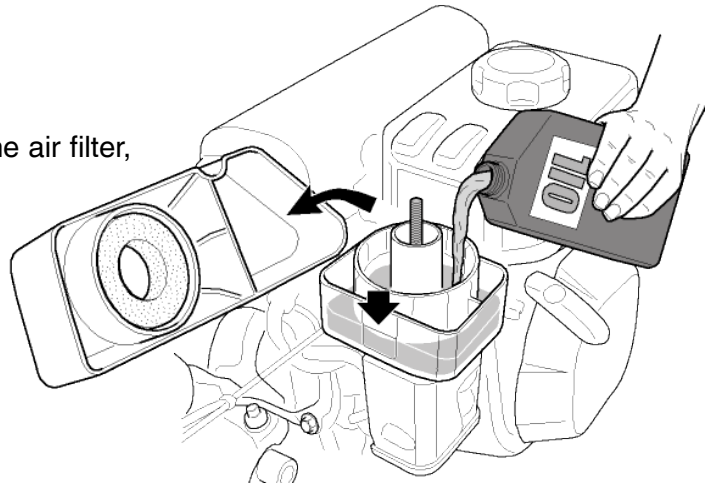

Figure 4a
- Loosen the wing nut and remove the filter cap (See fig. 4A).